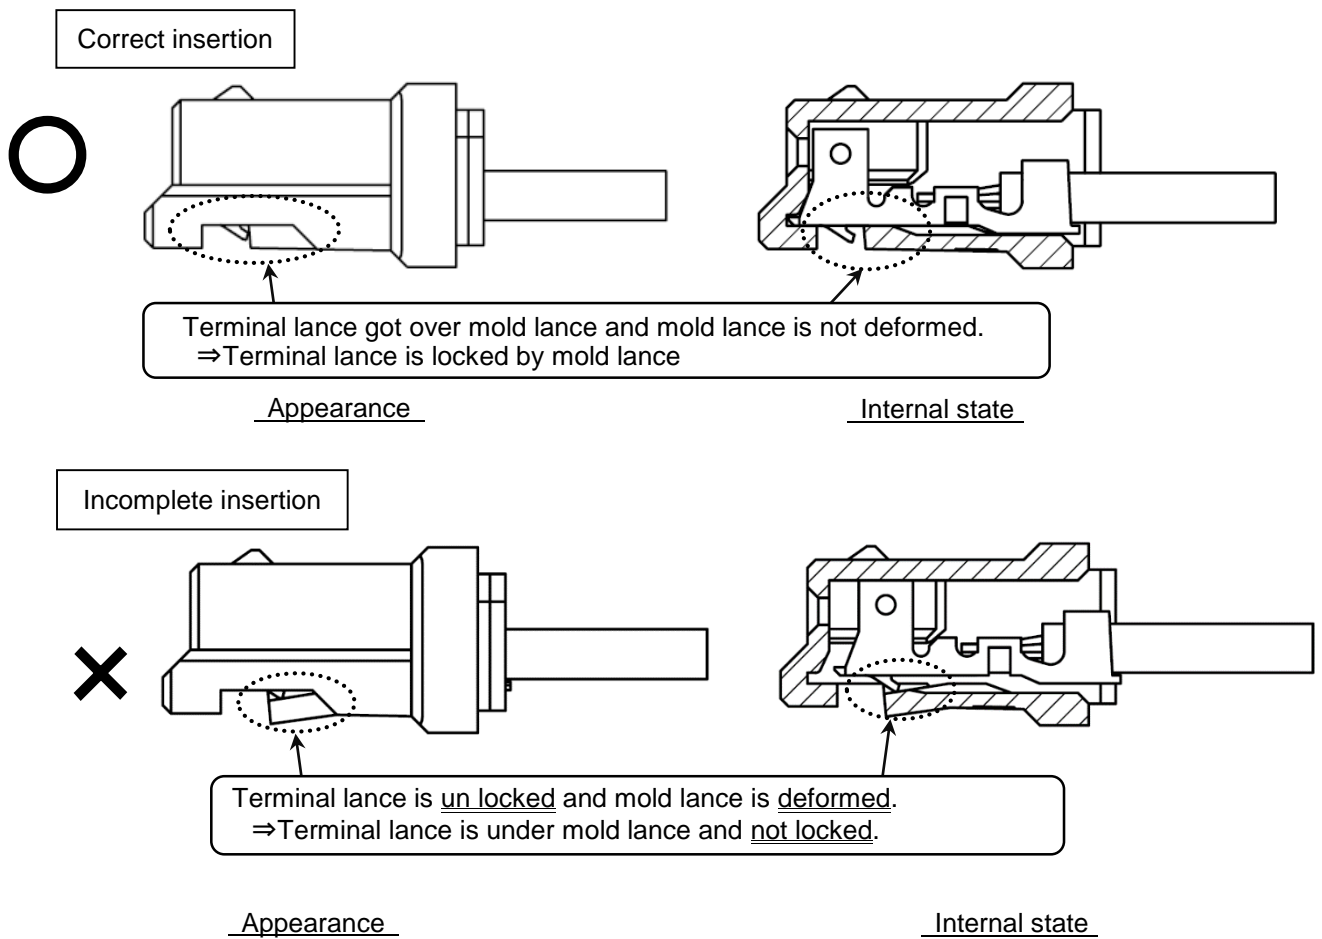

Fig. 5-3
5. After inserting all terminals, please confirm the state of mold lance and position of terminal lance. If they are inserted correctly, terminal lance is locked by mold lance and mold lance is not deformed. (Fig. 5-3)
*If terminal is inserted incompletely, terminal lance is not locked with mold lance and terminal is not retained. (Fig. 5-3)
*In the case of incomplete insertion (Fig. 5-3: Incomplete insertion), mold lance is deformed. Mold lance kept in such condition is deformed and not go back to correct position, and retention force may decrease even if terminal is re-inserted in to housing. In this case, please replace housing to new one.